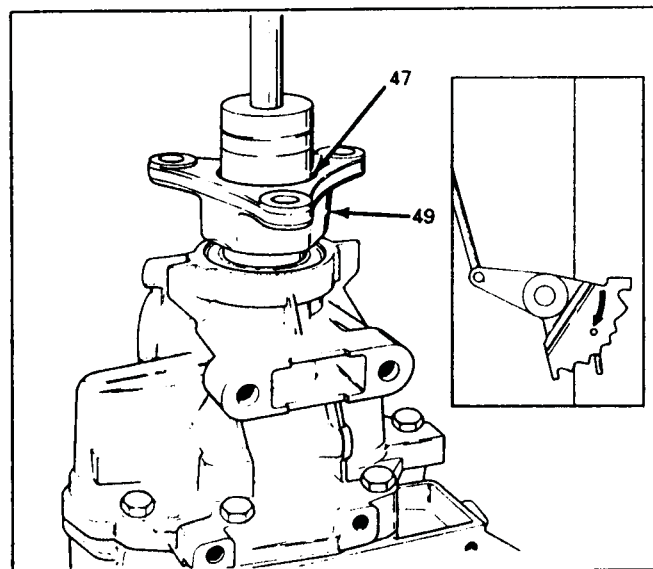

Figure 119
9. Install the drive flange by splining it onto the output shaft, and hand start the drive flange nut (See Figure 119).
10. Place the selector lever in the park position (Most Downward Position). This will lock the output shaft and prevent it from turning while tightening the drive flange nut (Figure 119).
11. Torque the drive flange nut, using a 1-1/2" socket to 40 ft.lbs, as shown in Figure 119.